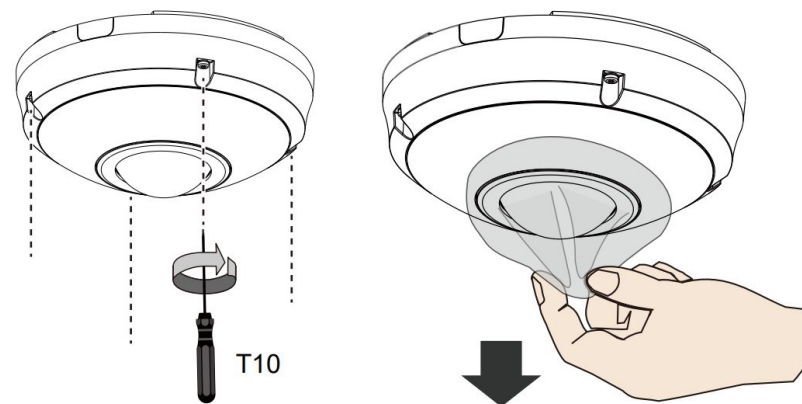

Figure 1-8
Step 8 Tighten the four T10 screws, then remove the dome cover protective film. See Figure 1-8.